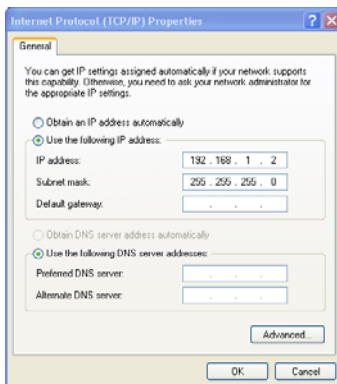

Figure 9: Internet Protocol (TCP/IP) Properties Window
6. Select **Use the following IP address**, and fill in the details as shown in Figure 9.